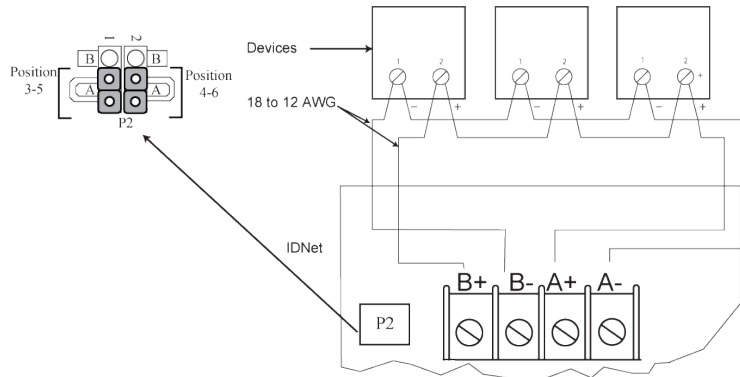

Fig 25: IDNet Class A wiring
3. Route the wiring from the first device to the next as in/out. See Figure 25: IDNet Class A wiring on page 32. Repeat this for each device.